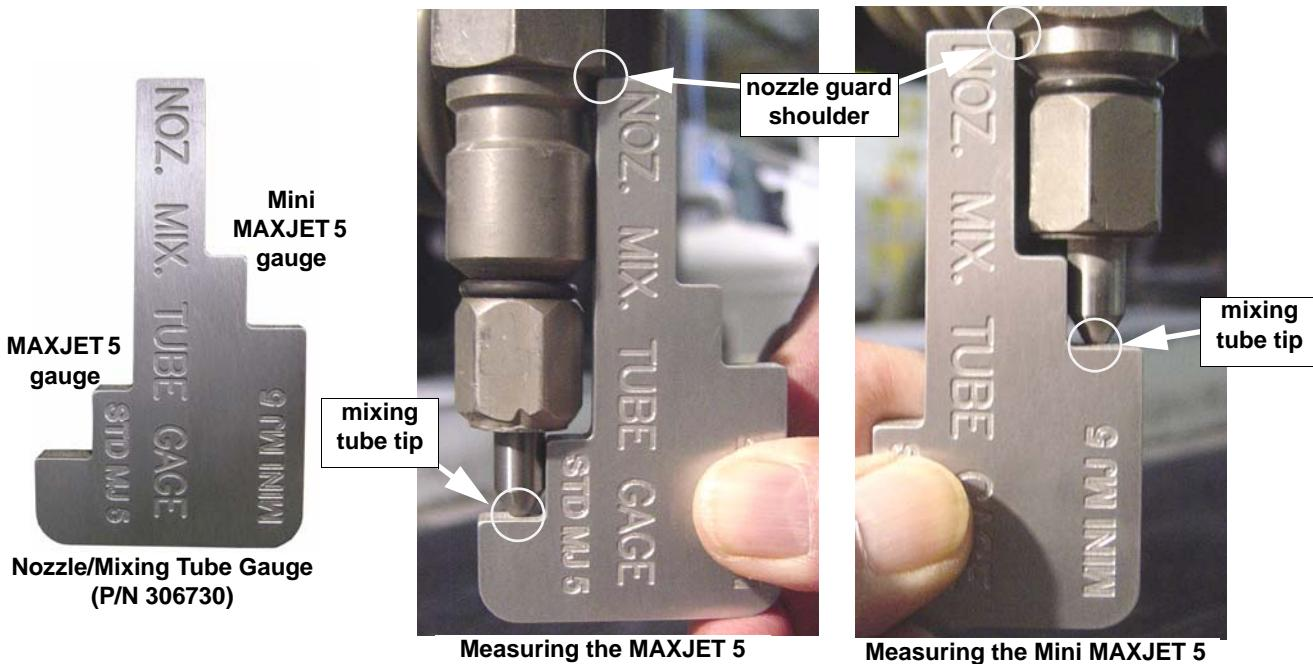

Figure 4-16: Verify Correct Mixing Tube Placement
- 11. Ensure that your mixing tube has been installed properly using the nozzle/mixing tube gauge as illustrated below in Figure 4-16: